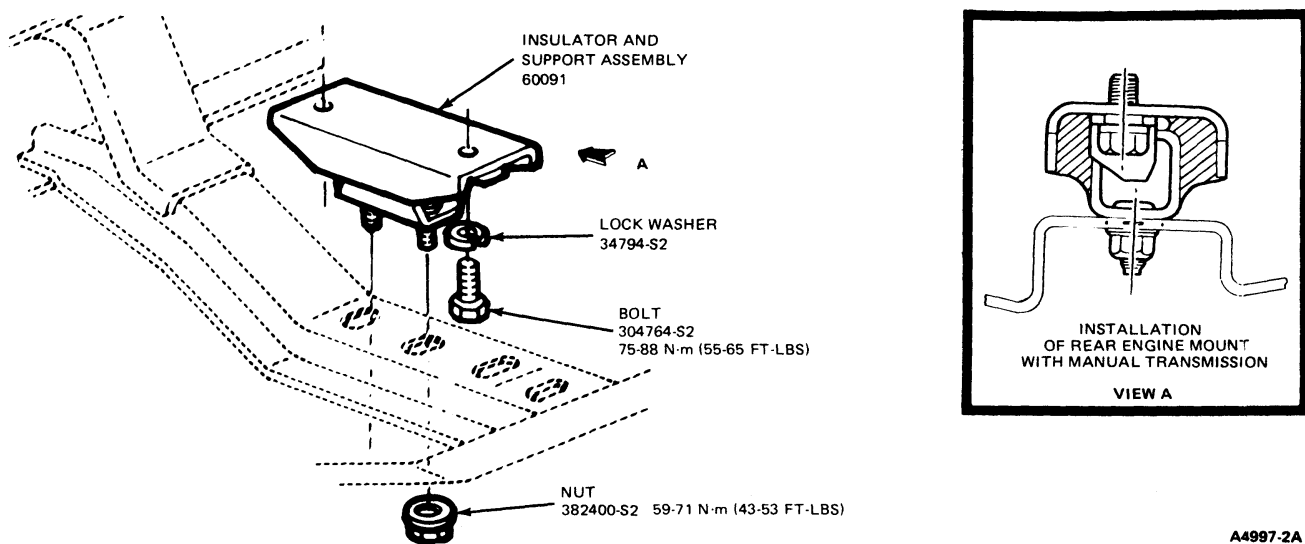

FIG. 11 Rear Support and Insulator—E-150—F-350
2. Remove the insulator support nuts securing the rear insulator support to the frame crossmember (Fig. 11).
1. Position the insulator support, then install the bolts securing the insulator support to the transmission (Fig. 11). Tighten the bolts to specifications.